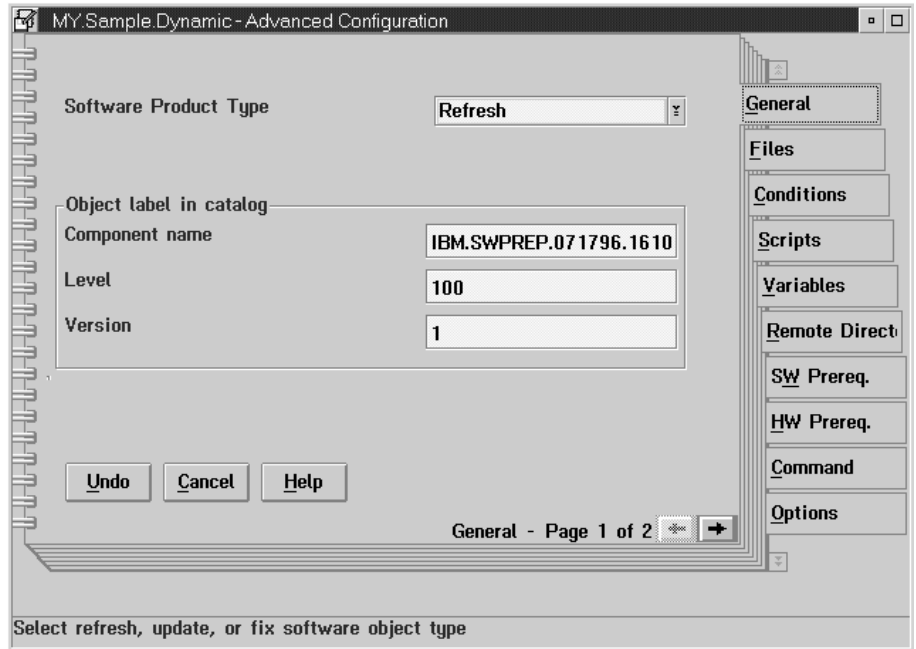

Figure 85. *My.Sample.Dynamic* - advanced configuration: general page
- 2 Open the My.Sample.Dynamic - Advanced Configuration notebook, as shown in Figure 85 on page 173.